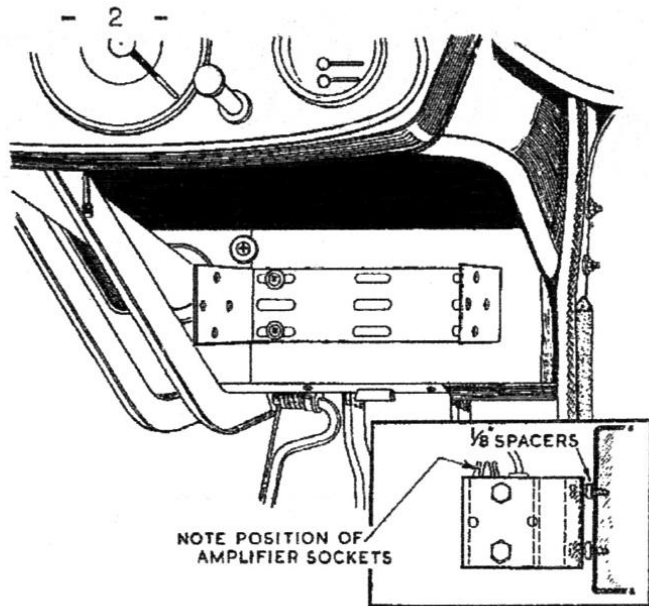
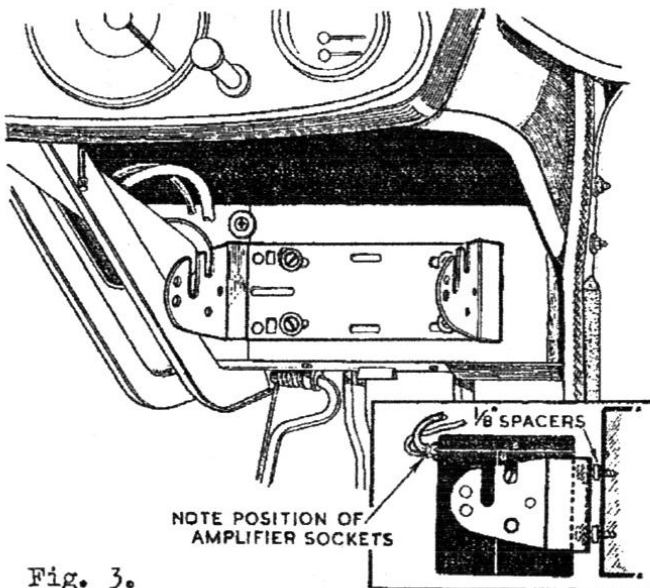

Fig. 2.
Fig. 3.
1. Locate mounting bracket on the vertical face of the heater duct between the steering column and the outside of the car as shown in Fig. 2 for Models 400T, 401T & 402T or Fig. 3 for Model 230R.
2. Using the bracket as a template, drill four holes (No.29 drill) in duct, as indicated in Fig. 2 or Fig. 3 as applicable.